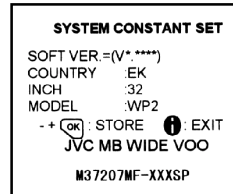

Fig. 2
3) While the SERVICE MENU is displayed, press the INFORMATION key and MUTE key simultaneously, and the SYSTEM CONSTANT SET screen shown in Fig. 2 will be displayed.